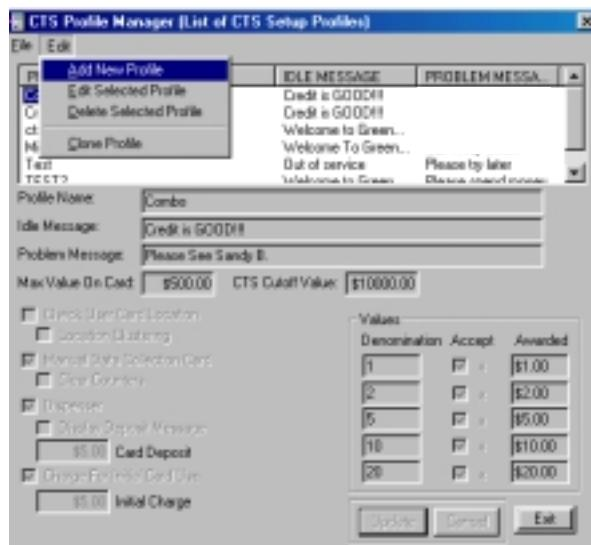

Figure 9.3 Adding a Cash CTS Profile
- Select Add New Profile from the edit drop-down menu (Figure 9.3).